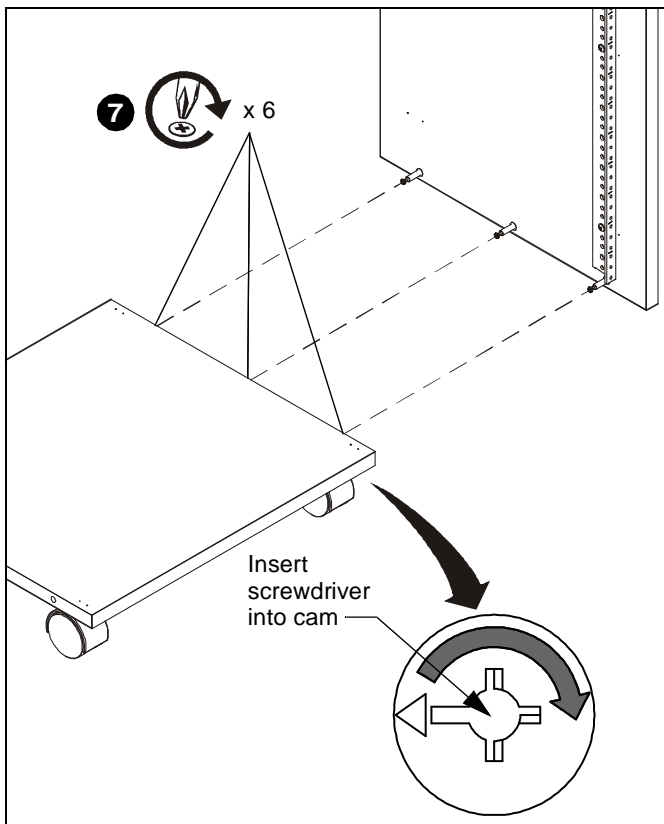

Figure 6
- Connect rack base to side panels. (See Figure 6)
- Insert Phillips screwdriver into the cams (in bottom of rack base) and turn 1/2 turn (following arrow on cam) to fasten the rack base to two side panels. (See Figure 6)